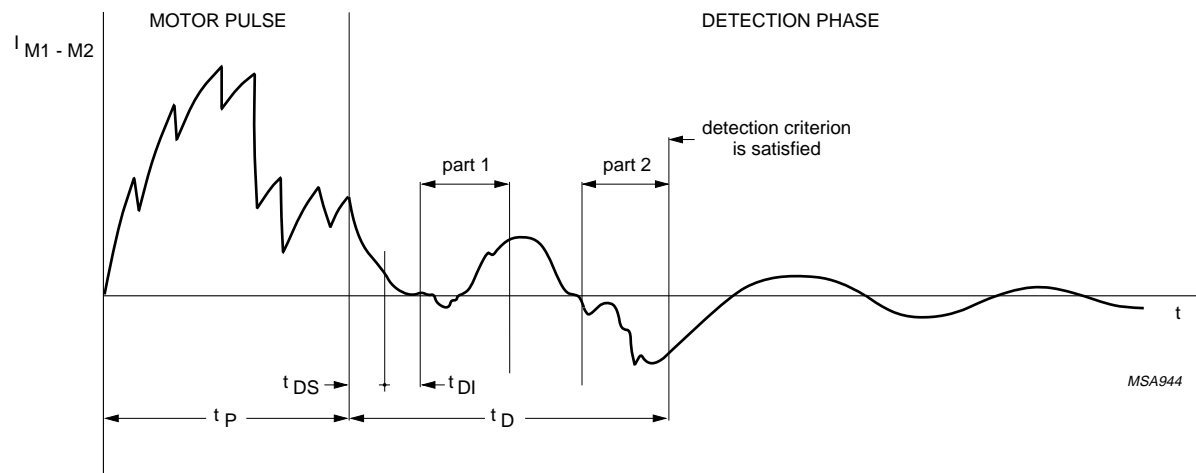

Fig.6 Typical current waveform of a successfully executed motor pulse.
The PCA146x uses current detection in two defined parts of the detection phase to determine if the motor has moved (refer to Figs 6 and 7). The detection criteria are:
- Minimum value of $N = 2$; where N = number of measured positive current polarities since the first negative current polarity after part 1 was detected (see Fig.6).